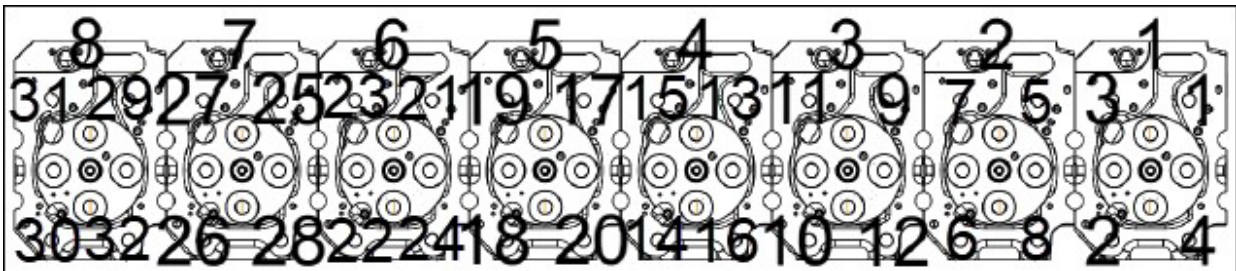

Figure 51.
6. Remove the cylinder head main bolts in the following order 1-32 (Figure 51).